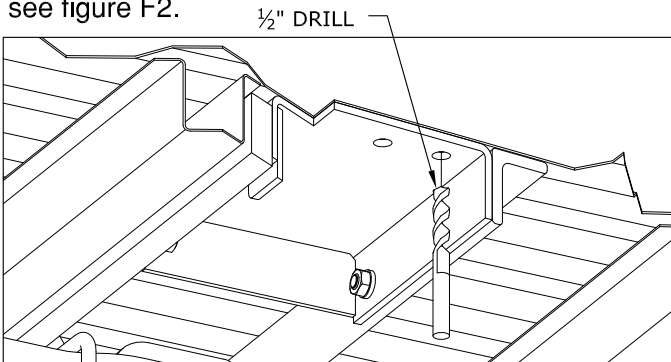

FIGURE F2: Cut away view from under the bed
1. **Drill the holes.** From under the bed use a drill and a $\frac{1}{2}$ " drill bit to drill through the bed using the four holes that match up with a low rib in the truck as a guide. Remove any burrs created during the drilling process, see figure F2.